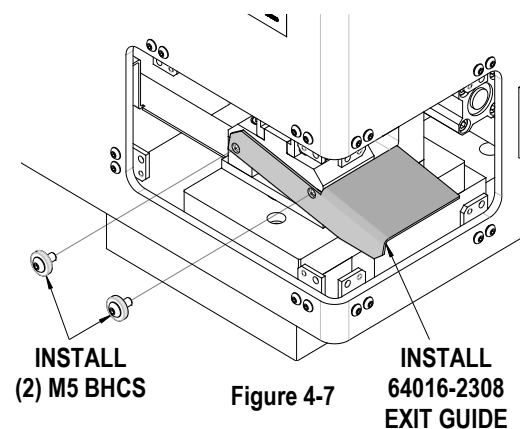

Figure 4-7
2. Install the (2) M5 BHCS with the hardened washers into the Exit Guide. See Figure 4-7.